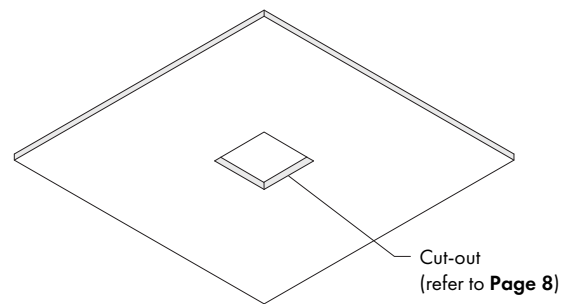

FIG. 5.4 Cut opening in Ceiling Tile
STEP 3 Extend Hanger bars to position T-Grid Clip assemblies fixture onto T-Grid bars - **FIG 5.4**.